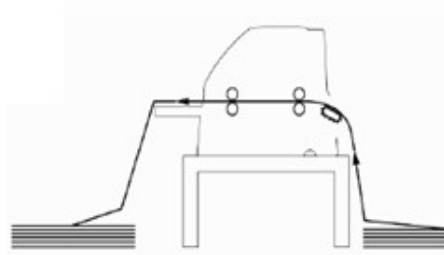

Fig. 2-5
- 2) As shown in Fig. 2-5, place the perforated paper to be printed behind the printer. The height of the paper should be lower than the printer.